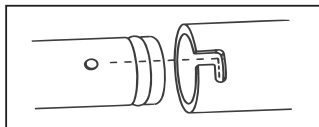

Figure 7
- Press distal hub of catheter contamination shield over assembly cap. Twist to lock (refer to Figure 7).